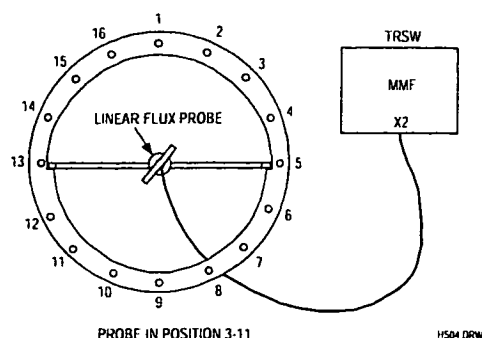

Figure 3 Frequency adjustment mode 3 - 11 (front view)
1. Position the **linear flux probe** with use of the rotation knob in the QBC flux probe holder in the center of the QBC. Connect the cable of the flux probe to tune A signal at MMFX2. The cable should leave the magnet via the backside to prevent coupling with the hybrid box. See Figure 3.